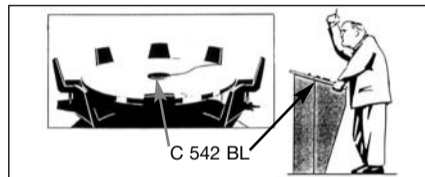

Fig. 5: Placing the microphone on a table.
- Refer to fig. 5. The microphone will keep a very low profile on conference tables or pulpits, too.